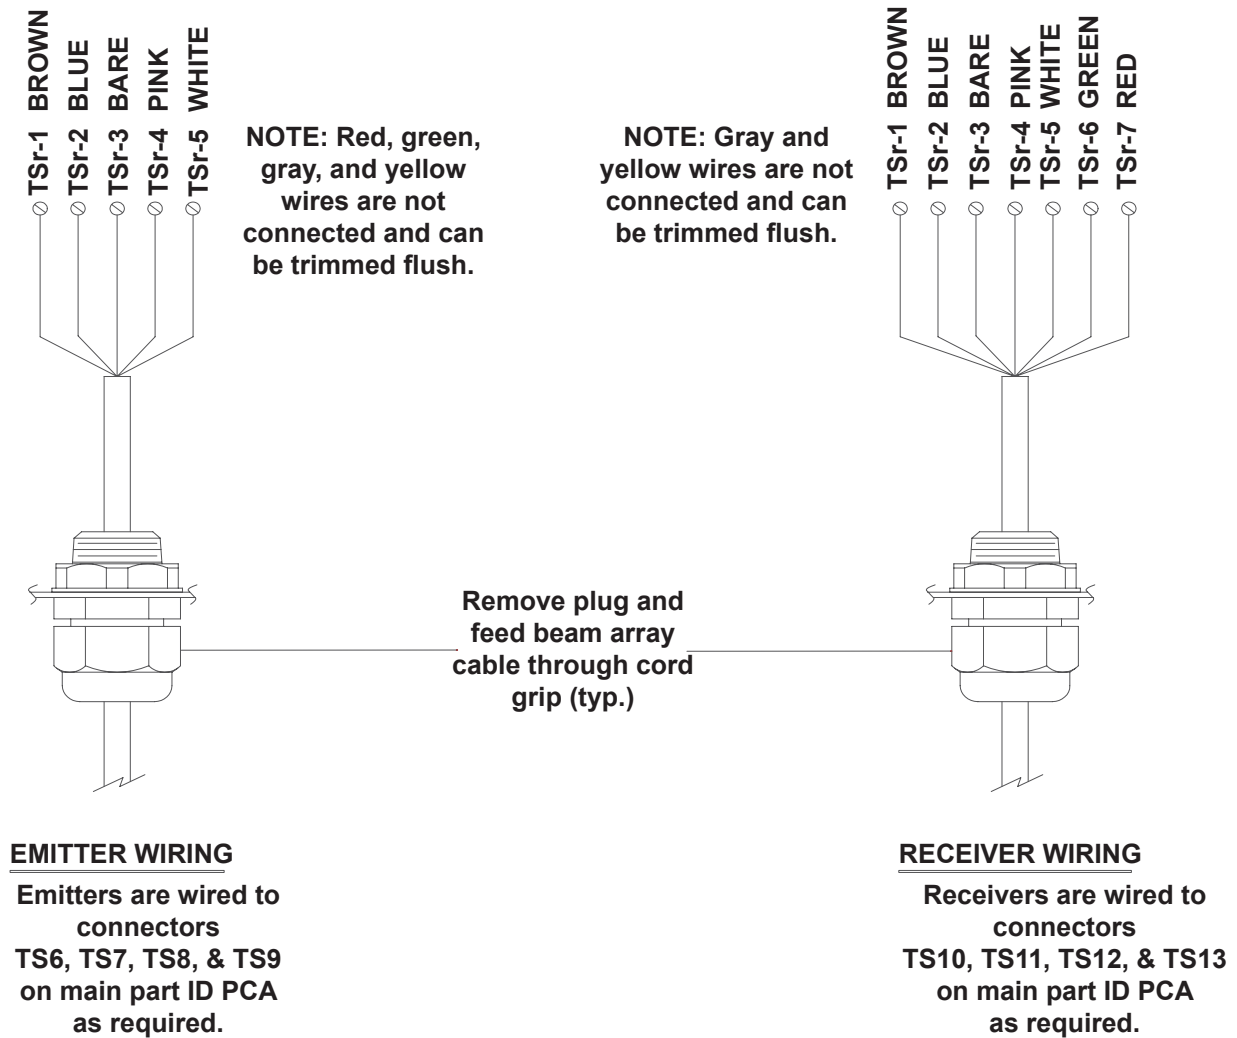
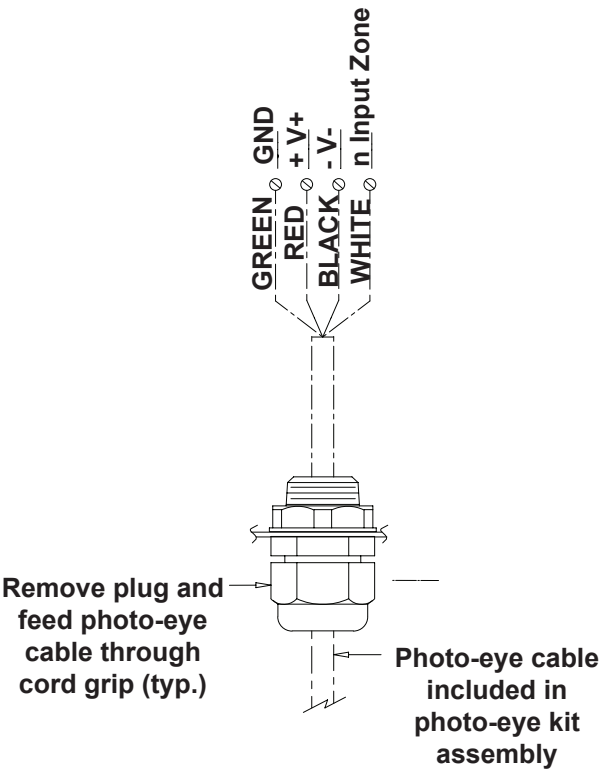
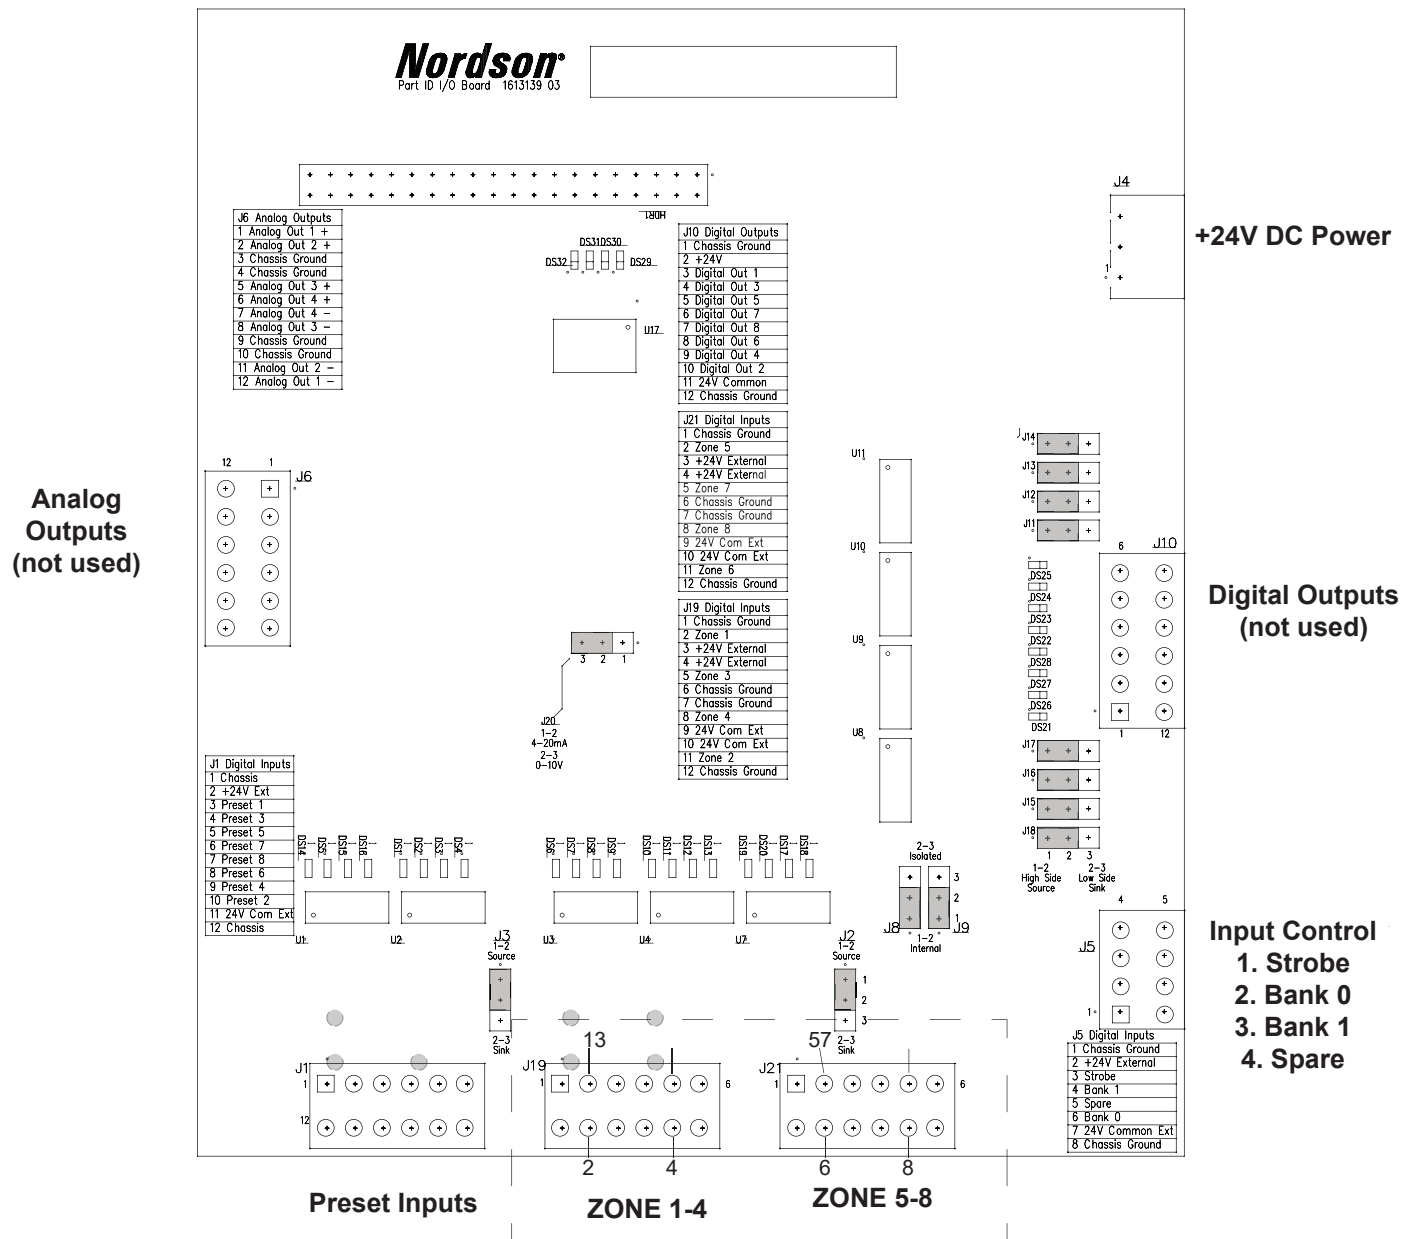
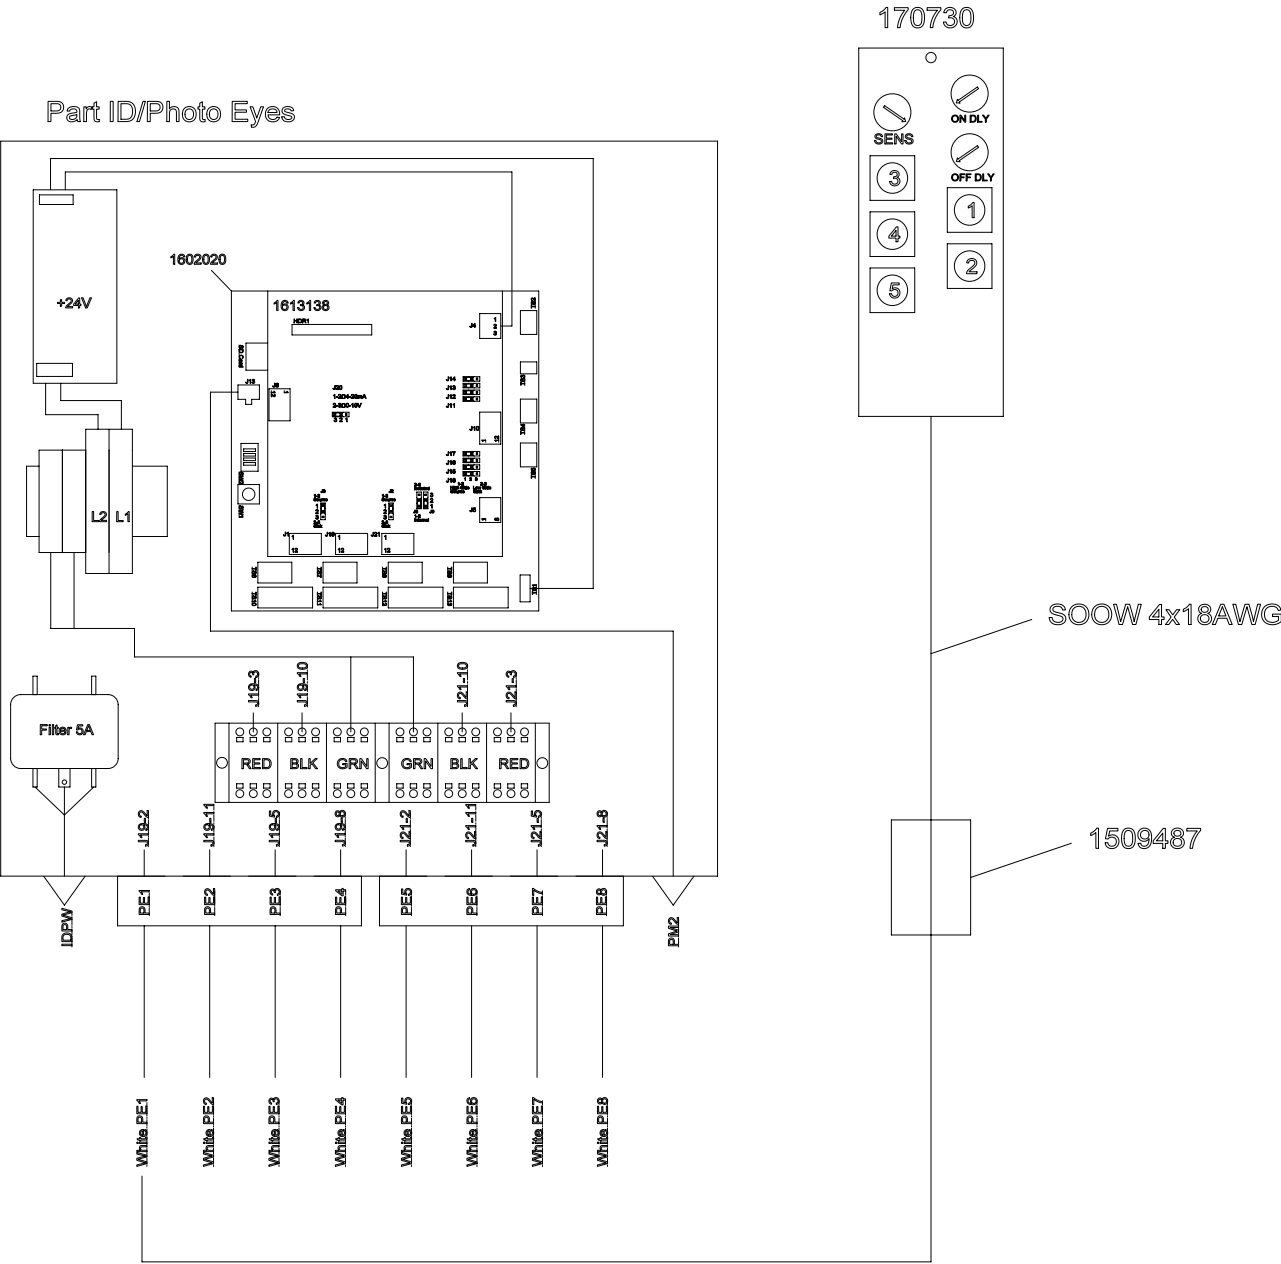

Figure 9 Beam Array Junction Box Wiring
Figure 10 Photoeye Junction Box Wiring
Figure 11 Zone I/O Board Connections
Figure 12 Cable Connections in Junction Box
- See Figure 9, Figure 10, Figure 11, and Figure 12. Connect the beam array and photoeye cables to the junction box.
Connect the cable to the terminal block in the PEJB, using Table 6. See Figure 12 for board locations.